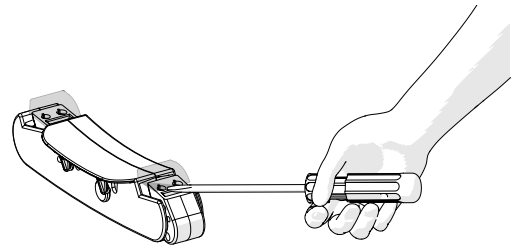

Fig. 13
2. Insert a screwdriver between foot and shoe on one of the pods (see Fig. 13).